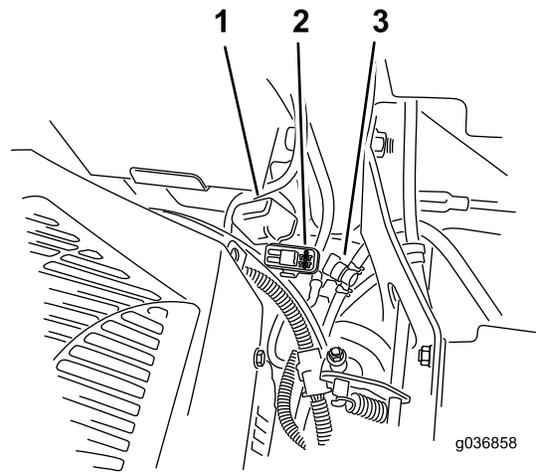

Figure 68
Note: For MyRide machines, ensure that the ground cable does not rub against the trailing arm or lower shock mount (Figure 68).
The fuses are located on the right console next to the seat (Figure 68).
2. Install a new fuse (Figure 68).